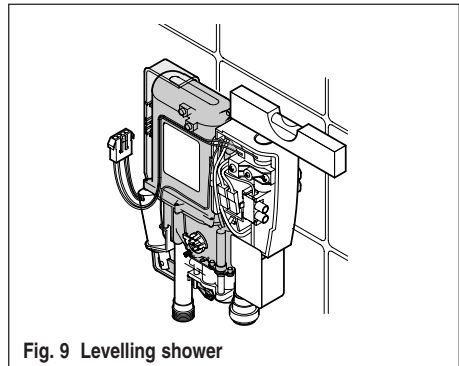

Fig. 9 Levelling shower
5.3.4 Ensure shower is level, use a small spirit level on top of the unit as shown in fig. 9.